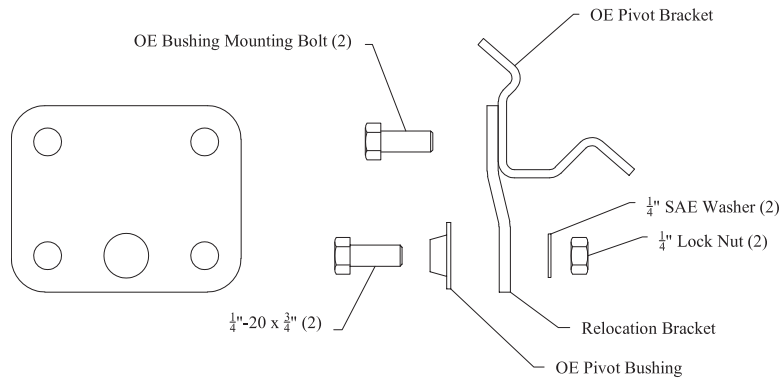

Figure 12
56. Mount the pivot bushing to the relocation bracket (Fig. 12).
57. Mount the pivot bushing relocation bracket to the OE bracket as shown in the figure 12. Torque all mounting hardware to proper specs.